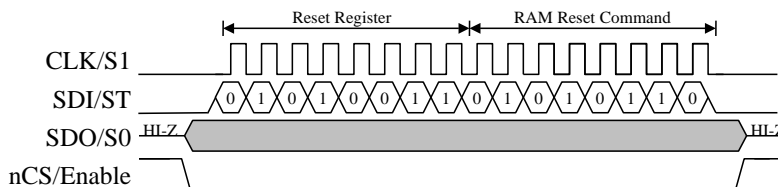

Figure 3. Reset Command Timing Diagram
3. Send Reset Command per Figure 3 (SDI is latched on rising edges of CLK) Note that it takes 16mSec for the Reset command to execute.